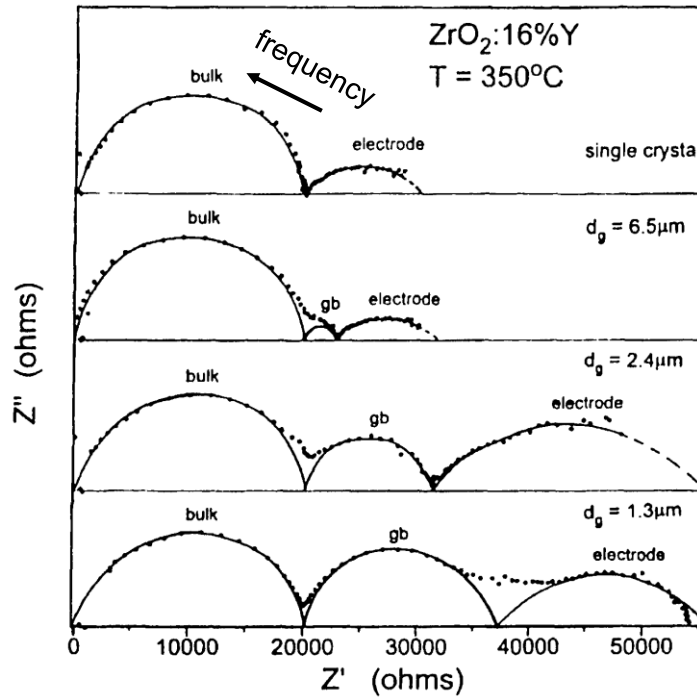

Figure 5
- (c) Figure 5 shows complex impedance spectra obtained for a single crystal and microcrystalline Ytria-stabilized Zirconia (YSZ) bulk specimens.